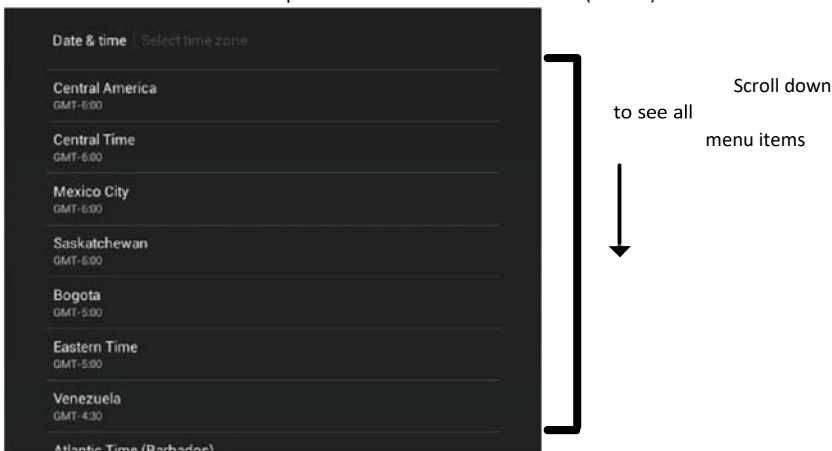

FIG. 82 Select Time Zone window
Select Time Zone:	Use the Select Time Zone window (FIG. 82) to select the current time zone.
1. Press **Select Time Zone** to open the Select Time Zone window (FIG. 82).